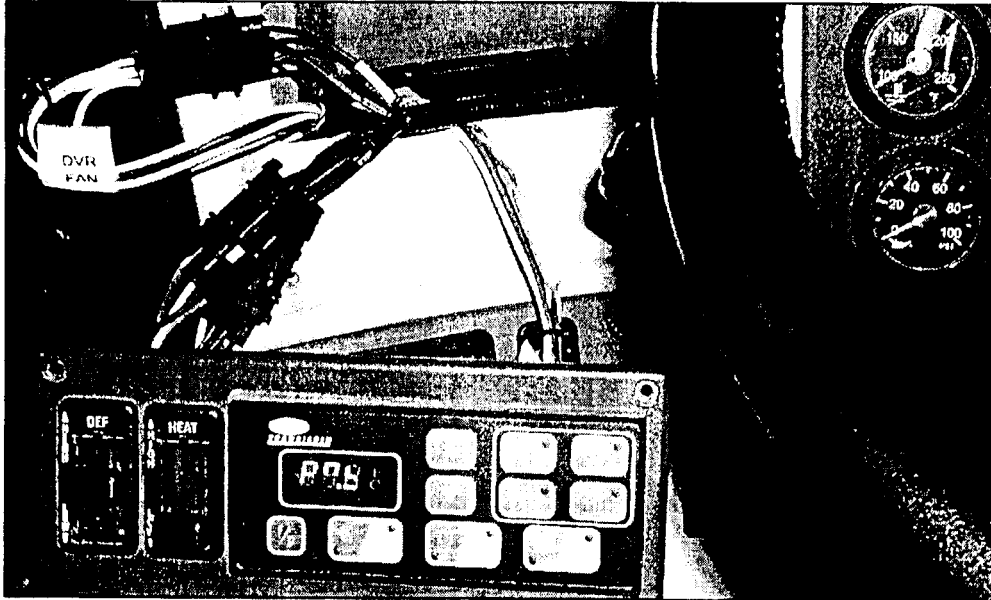

Figure 12.
19. Disconnect the defrost slide switch harness from the dash harness. Connect the harness (p/n 07-12-1915) to the defrost slide switch harness and the dash harness (Figure 12).